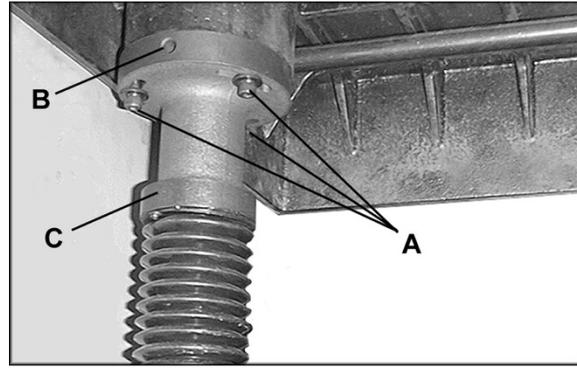

Figure 15
(A, Figure 15) beneath the table.
4. Place a rod-like object (such as a hex wrench) into one of the open holes (B, Figure 15) and turn the shaft (C, Figure 15) to raise the table until the gauge reads the proper measurement. Or, the same effect can be achieved by lowering the other side of the table.
5. Re-tighten the socket head cap screws (A, Figure 15).